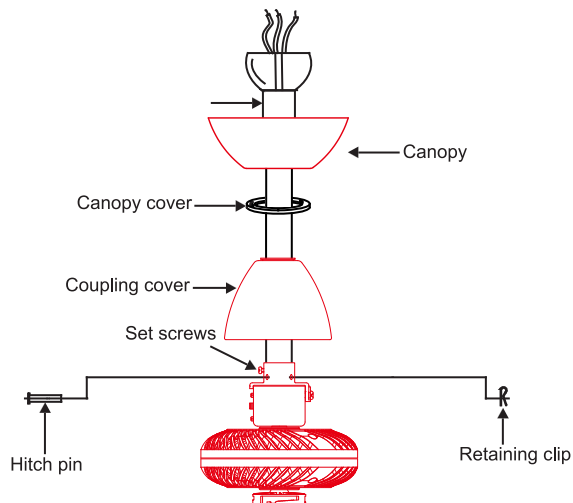

Fig. 9
Step 8. Slip the coupling cover , canopy cover and canopy onto the downrod. (Fig. 9)
Thread the hanger ball onto the downrod, insert the cross pin through the downrod and tighten. Now tighten the set screw. (Fig. 9)